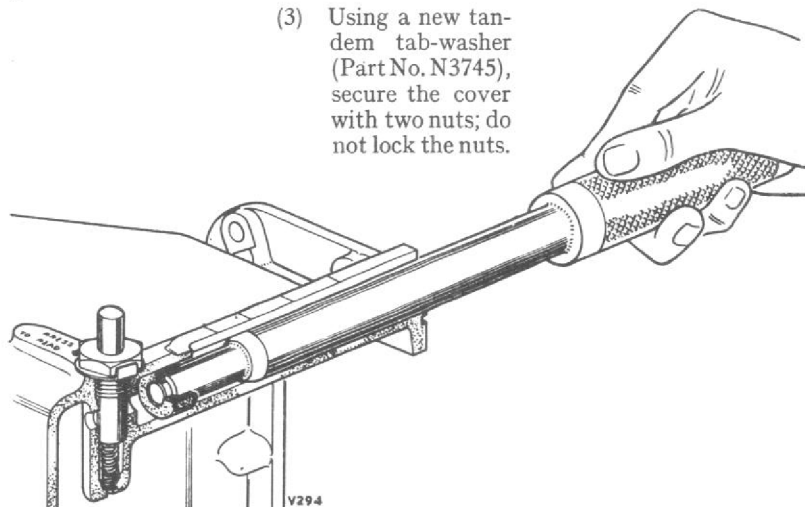

Fig. 6. Inserting the sight glass seating into the sump using tool T74768
- (1) Remove the blank from the sump.
- (2) Smear a little grease or tallow on a new oil level sight glass seating (Part No. 94041 Pre-mod. 441 or 96618 when Mod. No. 441 is embodied).
- (3) Using inserting tool T74768, insert the seating into the sight glass aperture in the sump (fig. 6), ensuring that the seating bottoms in the bore.
- (4) Position the sight glass screen to the rear of the sight glass aperture.
- (5) Using an approved jointing compound to ensure adhesion at the bends, assemble a new joint strip (Part No. 48346) to the groove in the sump joint face, with the ends cut at an angle to make a scarf joint.
- (6) Position the sleeve and the drive shaft to the oil pump drive in the bottom of the sump.
- (7) Assemble the sump to the wheelcase, and secure it finger-tight with seventeen plain and spring washers and nuts.
- (8) Align the sight glass bore in the sump with the bore in the wheelcase and tighten the securing nuts.